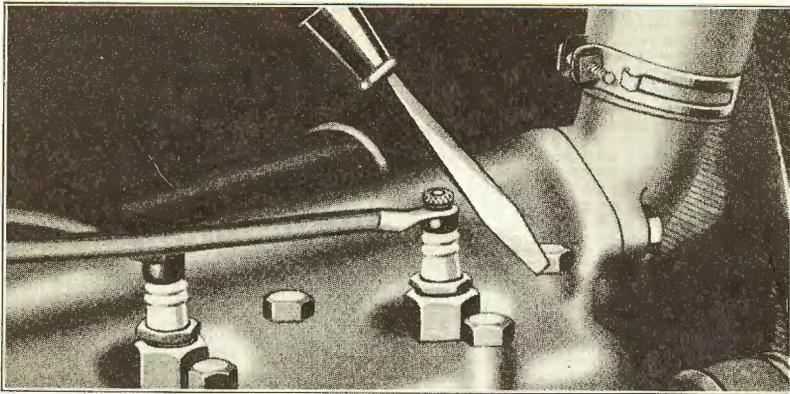

Fig. 497
- 989 If the engine turns over freely but does not start when the starting switch is depressed, place a screw driver with a wooden handle on the cylinder head, holding it about $\frac{1}{8}$ " away from the top of the plug, as shown in Fig. 497 while some one turns the engine over rapidly with either the starter or hand crank. If a good live spark occurs at all of the plugs, the trouble lies in the fuel system and can be remedied as explained in Pars. 1014 to 1018. If a spark does not occur the trouble lies in the electrical system. On cars equipped with a starter, this test should be tried with the ignition key turned on both battery and magneto. If the car will run on battery but not on magneto, inspect the magneto contact post as described in Par. 991. If magneto post is O. K., the trouble is due either to excessive end play in the crankshaft, weak magnets or a ground or short in the magneto coil assembly. See Pars. 992 to 999.